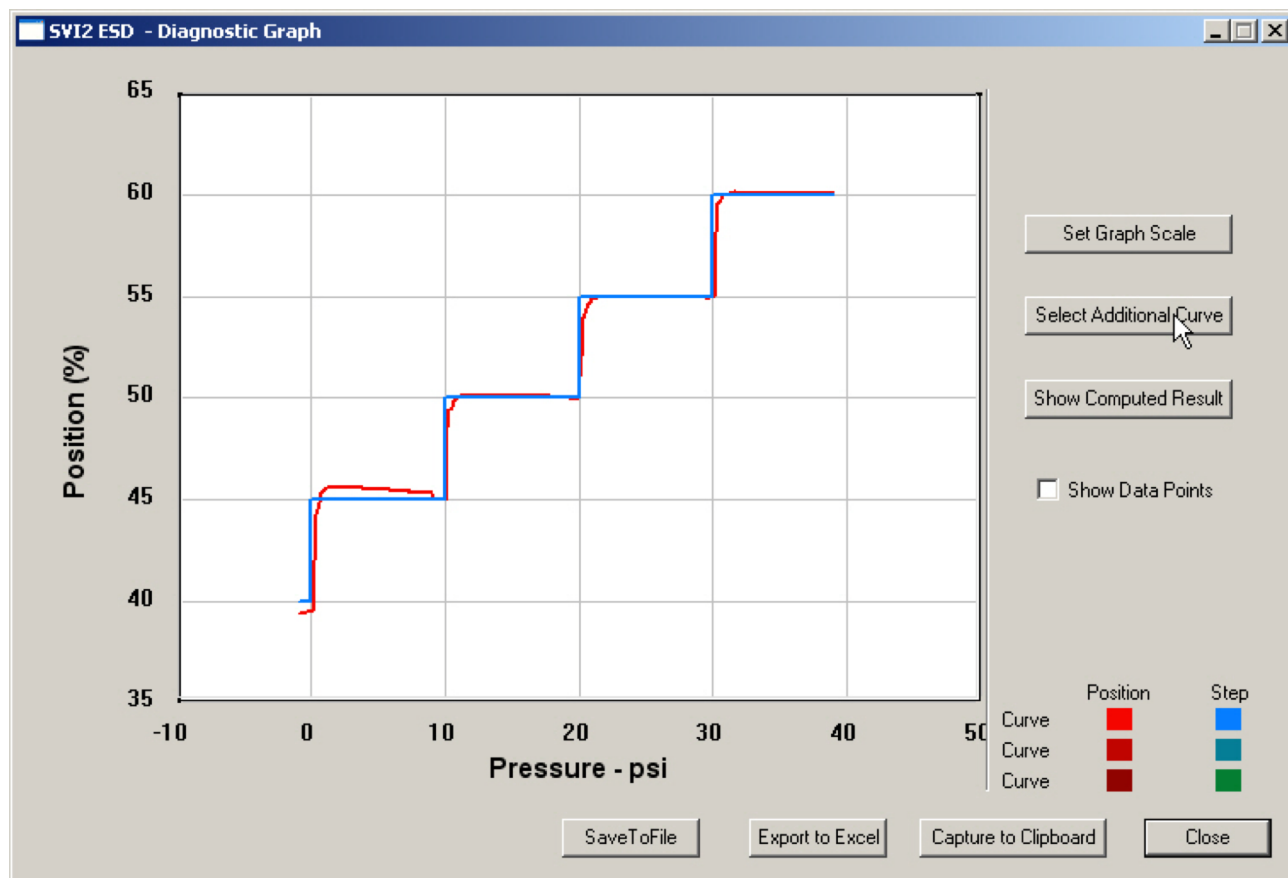

Figure 183 - Starting Select Additional Curve
1. Click **Select Additional Curve** (*Figure 183*).